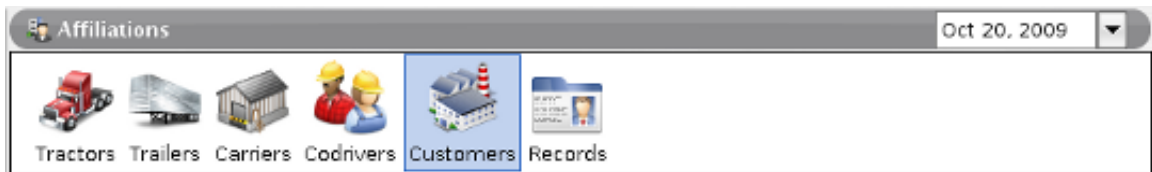

Figure 5.12. Customer Navigation Item
2. Select the "Customer" affiliations navigation item see Figure 5.12, "Customer Navigation Item".